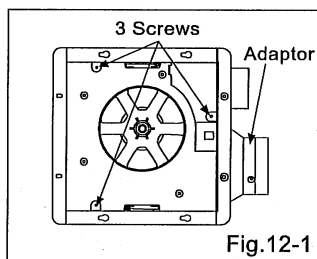

Fig.12-1
1. Loosen 3 screws (but do not remove them from blower). (Fig.12-1)